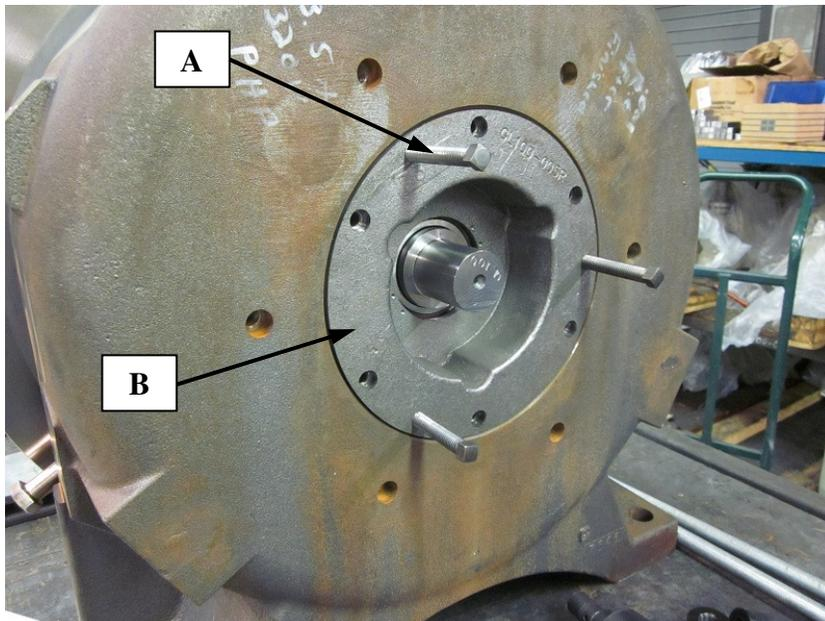

Figure 7
- Once the back cap screws have been removed, install the jack bolts, "A", to remove the back cap, "B", from the machine. The jack bolts are 1/2"-13, with a minimum of 3" of usable thread. Refer to Figure 7.